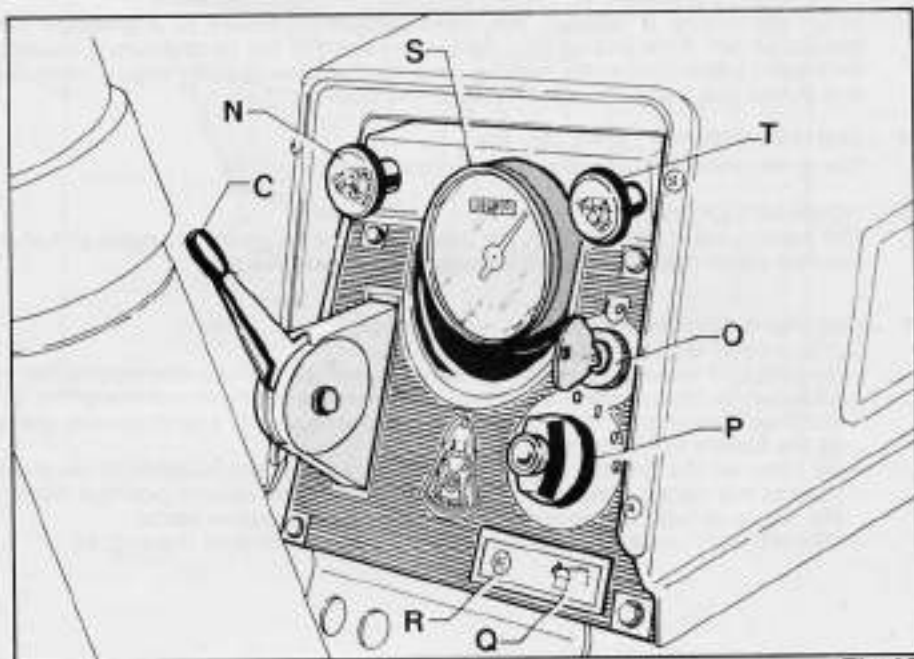

Fig.10
- As soon as the engine starts the oil pressure warning light on the dashboard (fig. 10) must be "off"; if it remains on or suddenly lights up during the regular operation turn off the engine immediately because it means that the oil pressure is insufficient, in which case do not use the tractor till the fault has been rectified.
N - ENGINE STOP KNOB (fig. 10)
**O - MAIN SWITCH AND START KEY (fig. 10)**
P - LIGHT SWITCH (fig. 10)
Q - OIL PRESSURE WARNING LIGHT (fig. 10)
R - LIGHTS WARNING LIGHT (fig. 10)
S - HOUR-METER (fig. 10)